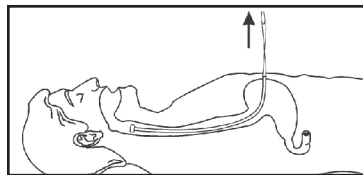

Figure 9
- While grasping both strands of the proximal end of the insertion wire, pull the PEG tube through the incision site (Figure 9).